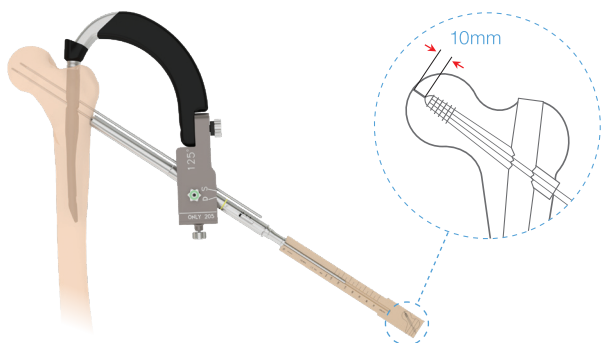

Figure 18
**NOTE.** The size marked on the gauge corresponds to the length of the guide wire from its apex to the lateral Cortex. If the cephalic guide wire U02 has been correctly inserted up to the subchondral bone, the length of the cephalic screw is obtained removing 10mm from the size measured on the graduated scale of the gauge (e.g. 110mm on the gauge corresponds to a cephalic screw with length 100mm) (Fig. 18).